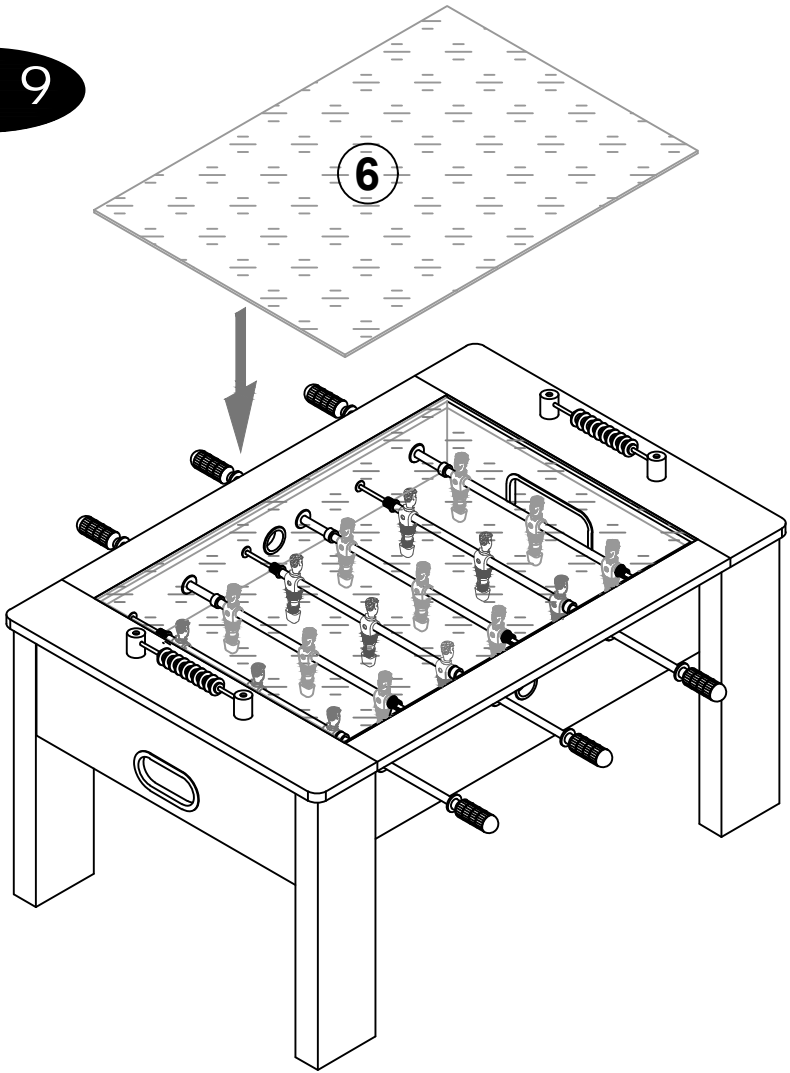

Fig 9
12. Place the Glass Plate(#6) into the slot in the middle of the tabletop as shown FIG.9